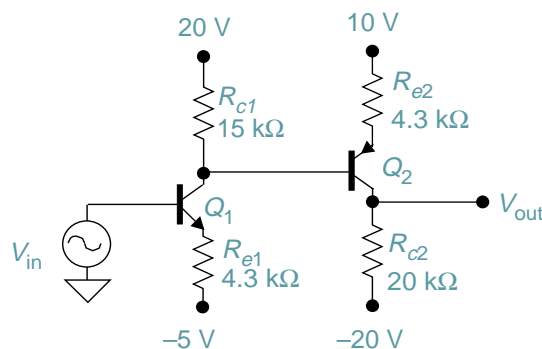

FIGURE 5–19 Direct coupled amplifier
**Step 3.** Using 300 Hz, calculate the value of each capacitor using the following formula. The calculation for the first capacitor is shown. Table 5–1 shows the calculated values for all capacitors for the circuit shown in Figure 5–18.
Figure 5–19 shows a two-stage direct coupled amplifier. The first stage uses emitter biasing. With no input signal, the 4.3 k $\Omega$  emitter resistor connected to the negative 5 V supply sets the emitter and collector current of  $Q_1$  to 1 mA. The 1 mA of collector current flowing through  $Q_1$  causes a 15 V drop across the 15 k $\Omega$  collector resistor setting the collector voltage at 5 V. The second stage uses a PNP transistor, and the bias voltage on the base is held constant at 5 V by the output of the first stage. The emitter of  $Q_2$  is connected to a 10 V supply through a 4.3 k $\Omega$  emitter resistor. Since 4.3 V will be dropped across the emitter, the emitter current and collector current of  $Q_2$  will equal 1 mA. The 1 mA of collector current flows through the 20 k $\Omega$  collector resistor of  $Q_2$ , dropping 20 V. This causes the output to be zero volts at quiescence.
For the circuit in Figure 5–19, calculate  $V_B$ ,  $V_E$ ,  $V_C$ ,  $V_{CE}$ ,  $Z_{in}$ ,  $Z_{out}$ , and  $A_v$  for each transistor. Then calculate  $Z_{in}$ ,  $Z_{out}$ , and  $A_v$  for the total circuit.